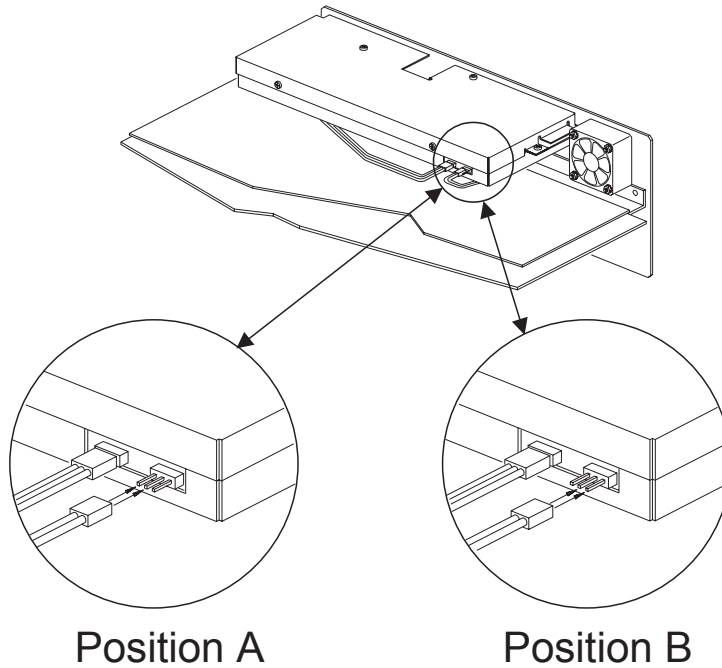

Figure C-3. Cable positions for monitor selection
2. Locate the digital assembly, which is enclosed in a metal case near the rear of the unit. The cable to be changed is located on the right front corner of the digital assembly, as shown on Figure C-3.
3. The cable connector has three pins that stick out from the metal case. The cable connects to either the left two pins or the right two pins (see Figure C-3). With the cable in Position A, the monitor signal will come from the input. With the cable in Position B, the monitor signal will come from the final processed reading. The polarity of the connection does not matter. Move the cable to the desired position.